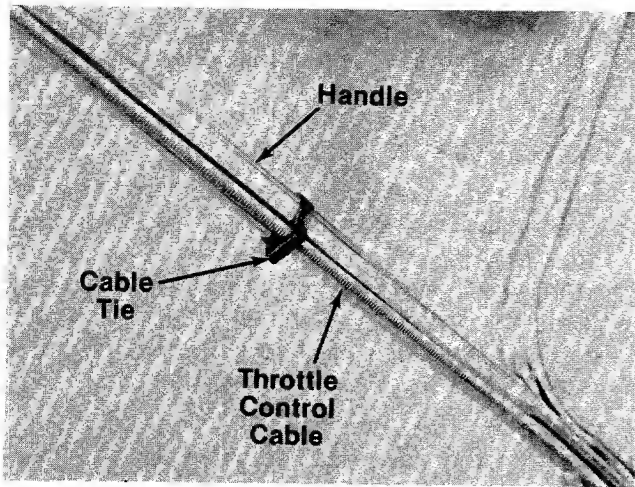

FIGURE 4.
5. Secure throttle control cable to handle with ties provided. See figure 4.